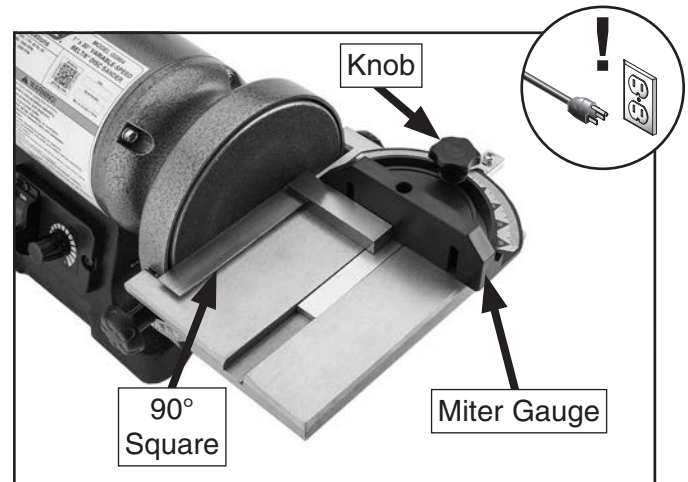

Figure 25. Squaring miter gauge to disc.
3. Set one edge of 90° square against face of miter gauge and other edge against disc face, as shown in **Figure 25**.